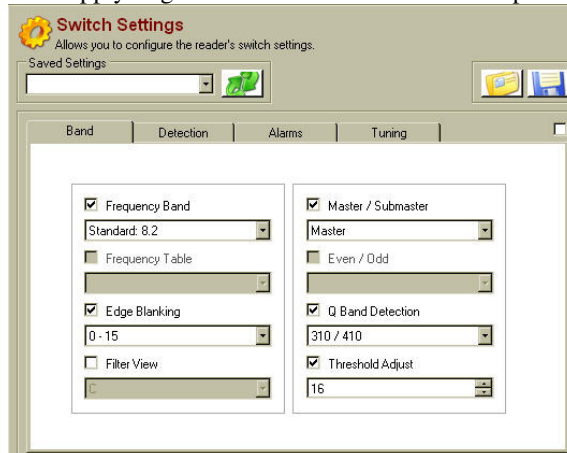

Figure 26X*** Band Settings
4. Click on Apply. Figure 26X*** shows the Detection parameters for NGL.